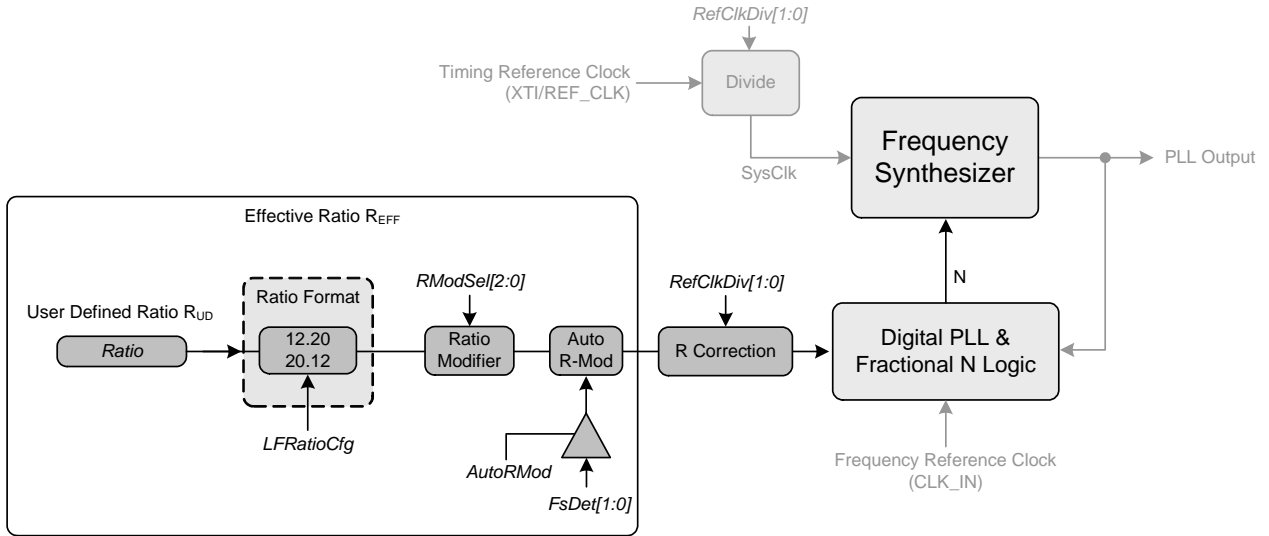

Figure 13. Ratio Feature Summary
The R_{UD} is the user defined ratio stored in the register space. The resolution for the R_{UD} is selectable by setting *LFRatioCfg*. R-Mod is applied if selected. The user defined ratio, ratio modifier, and automatic ratio modifier make up the effective ratio R_{EFF} , the final calculation used to determine the output to input clock ratio. The effective ratio is then corrected for the internal dividers. The conceptual diagram in Figure 13 summarizes the features involved in the calculation of the ratio values used to generate the fractional-N value which controls the Frequency Synthesizer.
- Changes made to the registers which affect the Fraction-N value that is used by the Frequency Synthesizer. This includes all the bits shown in Figure 13 on page 19.